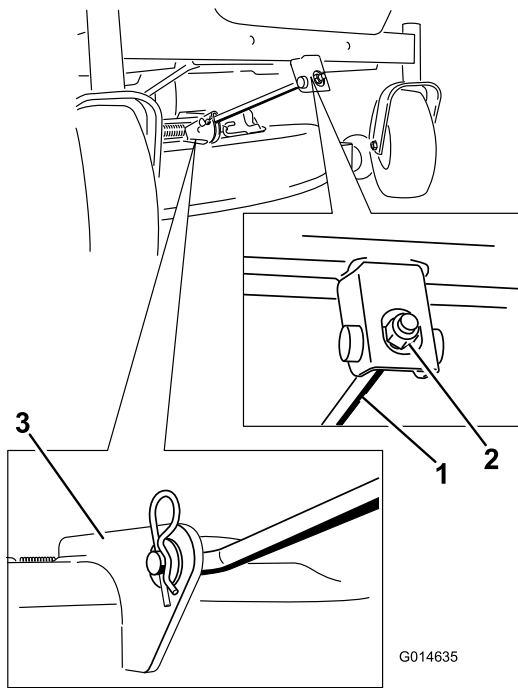

Figure 62
5. Remove the hairpin cotter from the front support rod, and remove the rod from the deck bracket (Figure 62).
- 6. Attach the front support rod to the mower deck with the clevis pin and hairpin cotter (Figure 62).